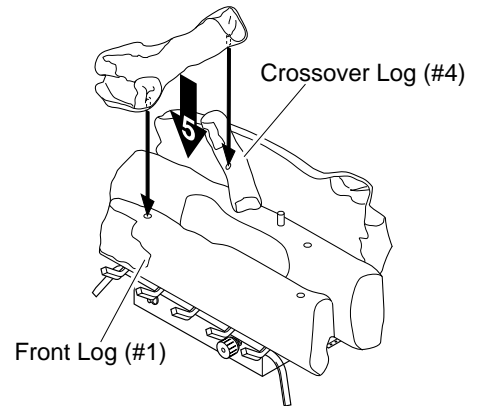

Figure 28 - Installing Crossover Log (#5)
5. Locate pegs on the bottom of crossover log (#5). Slide these pegs into the holes located in crossover log (#4) and front log (#1). See Figure 28.